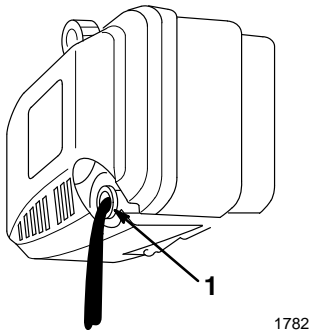

Figure 16
5. Tip the lawn mower onto its left side, allowing the oil to drain into the drain pan (Fig. 16).